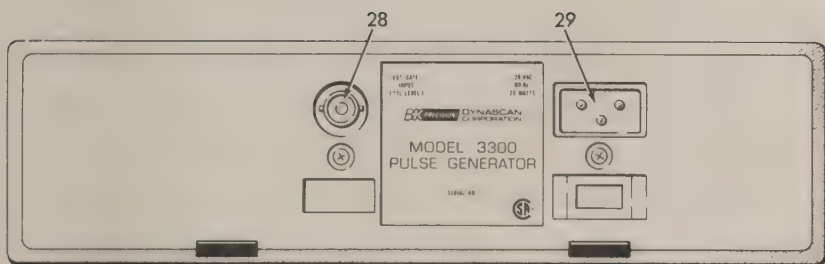

Fig. 2. Rear panel facilities.
28. **EXT. GATE (External Gate) Jack.** Input jack for external burst gate. Located on rear panel, see Fig. 2.
29. **Line Cord Receptacle.** Located on rear panel, Fig. 2.